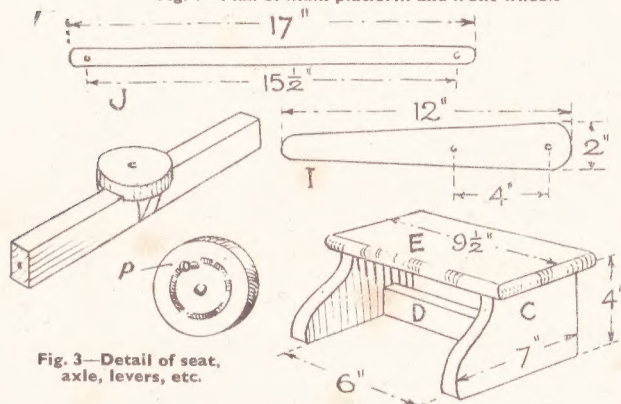

Fig. 3—Detail of seat, axle, levers, etc.
Now make the seat from the four pieces shown in the enlarged detail in Fig. 3. Mark out the shaping of piece on to one piece of stuff measuring 7ins. by 4ins., and after cutting this round, use it as a template for outlining the second
The hand levers—one is shown at (I) Fig. 3, are cut from 1in. deal and to the measurements shown. Although the length is shown as 12ins., it can be made longer if thought necessary, according to the age and size of the youngster who will use the toy. The narrow top part of the levers should be rounded off smooth to afford a safe and comfortable grip for the hand.
Fix the levers to the side rails (B) by means of round-head screws, washers being included on the outside. The connecting rods (J) in Fig. 3 are made from iron bar about  $\frac{3}{8}$ in. or so wide by  $\frac{1}{4}$ in. thick. Should this be difficult to get, then hardwood can be used, about 1in. wide and  $\frac{3}{8}$ in. thick.
Oak or beech would be a most suitable wood here. The pivot screw for the rod is shown at (P) in Fig. 3. Drill holes in the rods, as shown, and connect them to the wheels and the levers with round-head screws. This completes the work of construction.